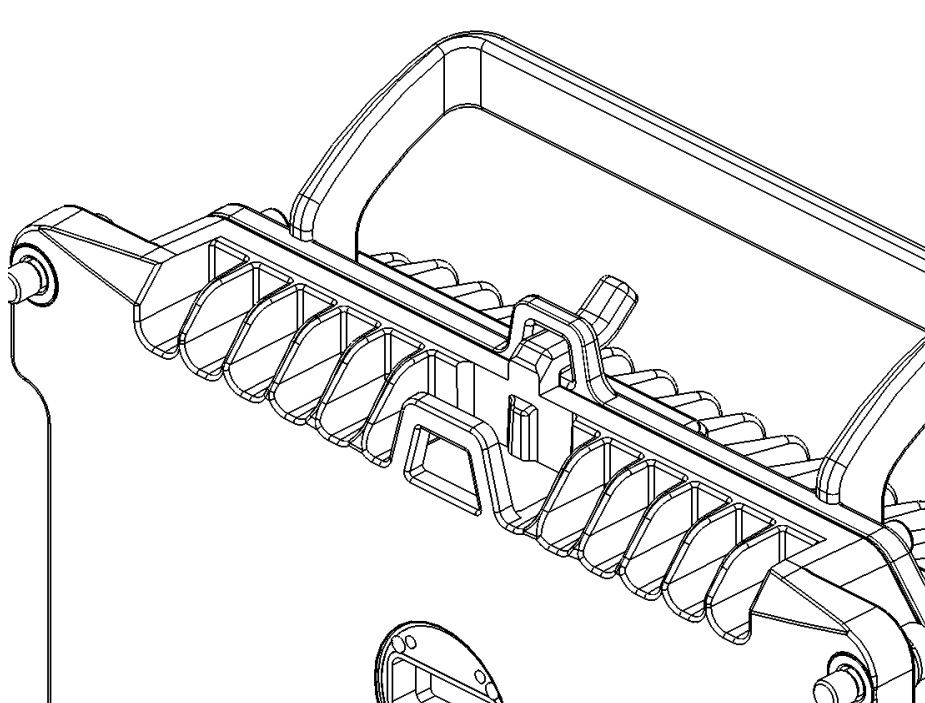

Figure 29: Hook and Carrying Handle
- 3 Attach the diplexer to the TRX using the two location pins. Make sure that the hook and the carrying handle are on the same side in both the radio unit and the diplexer unit (Figure 29).